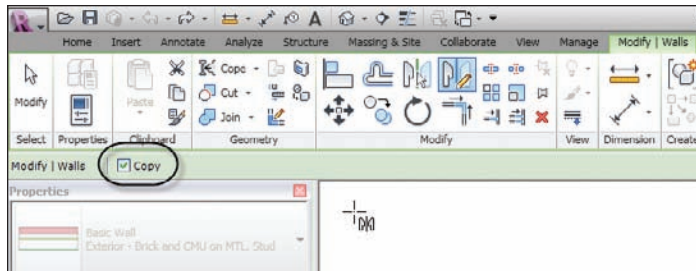

FIGURE 1.25 There are options you must choose for every command in Revit.
- Your cursor will change to a crosshair with the mirror icon illustrating that you are ready to draw a mirror plane, as shown in Figure 1.25.
- Make sure the Copy checkbox is selected (see Figure 1.25).